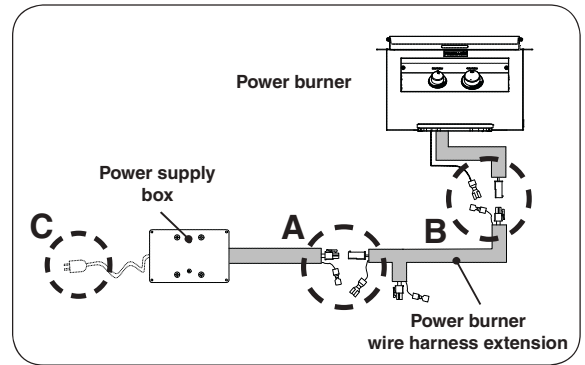

Fig. 17-1 Connect power burner to power supply
3. Connect the power supply box connectors to the power burner wire harness extension, as shown in Fig. 17-1, **A** (molex and ground wire connections).
4. Connect the power burner wire harness extension to the power burner, as shown in Fig. 17-1, **B** (molex and ground wire connections).
5. Connect the cord coming from the power supply box to a **120VAC (15 AMP minimum) GFCI GROUNDED 3-wire receptacle**. See Fig. 17-1, **C** and 17-2 .